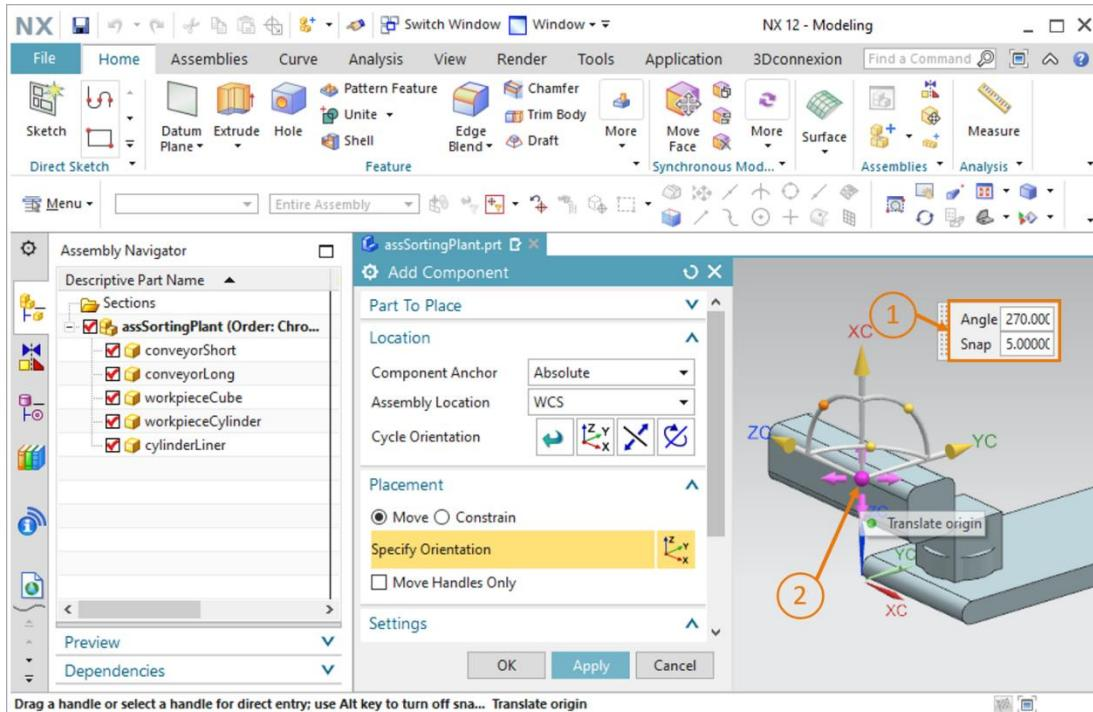

Figure 61: Rotating the "cylinderLiner" component – Specifying the rotation angle
- A new input window appears in the graphics window. For the required horizontal orientation, enter an angle of **270.0°**, as shown in Figure 61, step 1. Then click on the center point of the body in the graphics window again (see Figure 61, step 2), so that the origin can be moved again via the space coordinates.